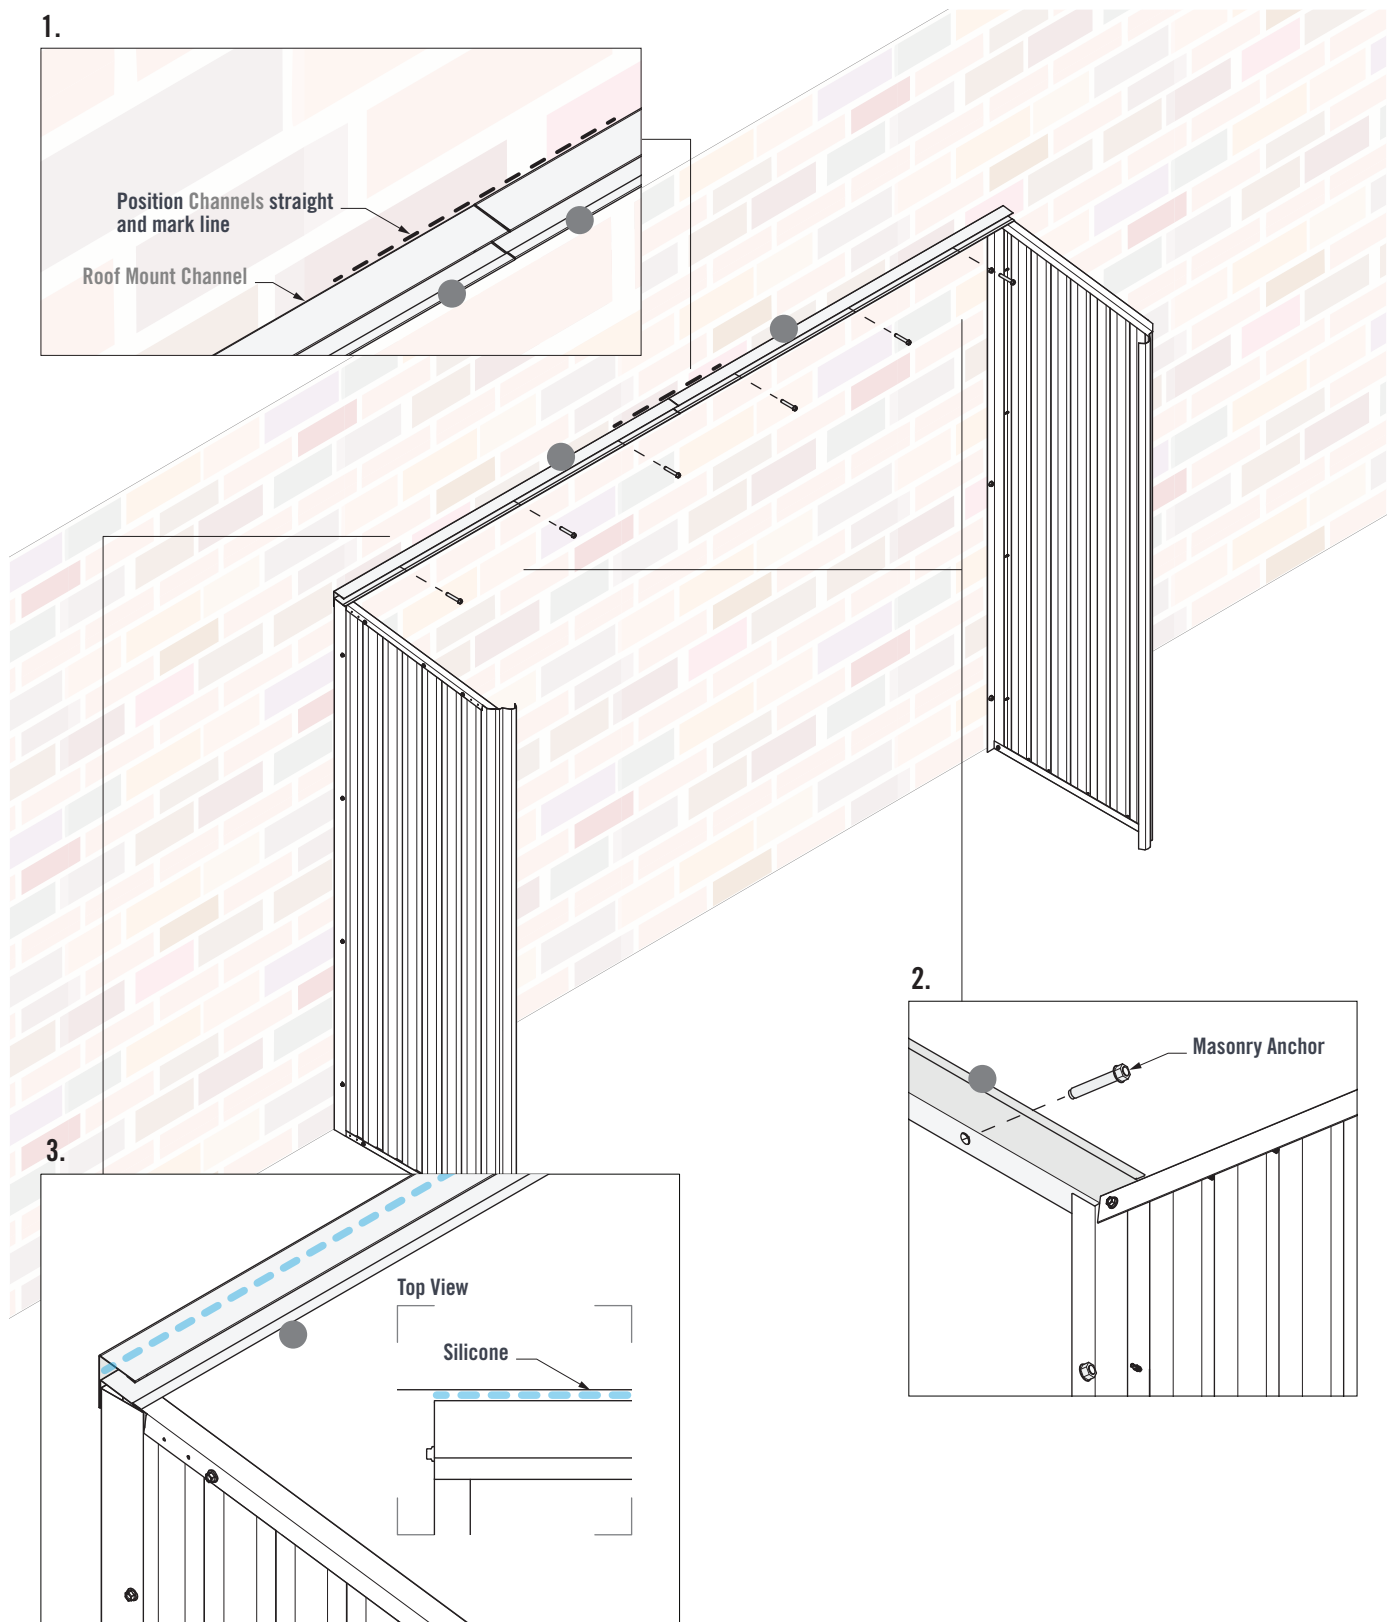

FIGURE 8.2
1. Ensure both ends of the Roof Mount Channels are in-line with the Wall Mount Channels. Ensure the Channels are straight and mark their position on the wall (Figure 8.2).
2. Mark and drill three 10mm holes through the pilot holes of both Roof Mount Channels and into the building wall. Loosely install three M10x47 Masonry Anchors in both Channels (Figure 8.2).
3. Before tightening the Masonry Anchors, apply a bead of silicone between the Roof Mount Channels and building wall to prevent rain entering the shed (Figure 8.2).